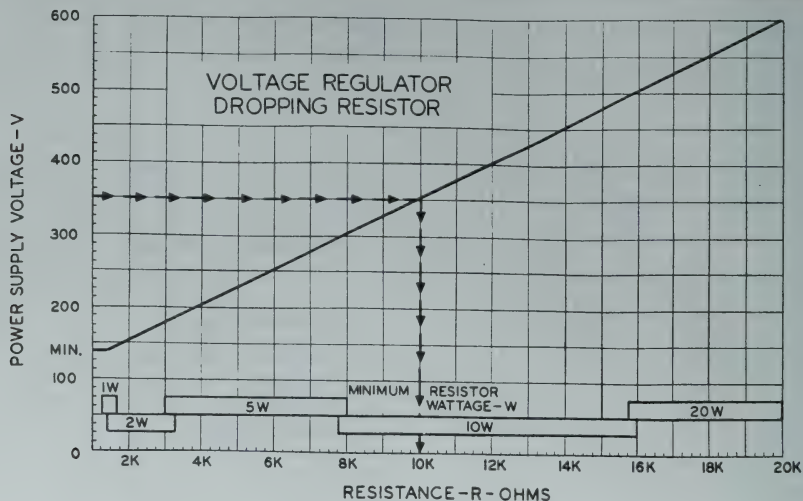

Figure 2
The value of the B+ voltage applied to the voltage regulator tube in the VFO is critical. For this reason, the value of the Dropping Resistor in series with the VR tube must be chosen to provide the correct voltage. The chart in Figure 2 should be used to determine the correct resistance and wattage of the Dropping Resistor. For example: If the B+ available from the transmitter is 350 volts, draw a line from the
350 volt point on the vertical scale across to the diagonal line of the graph. Then draw a line down from the point of intersection, to the horizontal scale. The point at which this line crosses the horizontal scale indicates the resistance value and wattage for the Dropping Resistor. This example is shown by the line of arrows on Figure 2. Do not use smaller resistance or wattage values. The correct Dropping Resistor should be installed in the VFO as shown in Figure 1. The 10 K Ω , 10 watt resistor, already in the VFO, should be removed. Figure 3 shows the VR tube and Dropping Resistor circuit schematically.
Voltage for the plates and screen grid of tube V1 is applied through series dropping resistor R11 to voltage regulator (VR) tube V2. The characteristics of this tube are such that the current through it will vary to maintain a constant voltage drop across the tube. The DC voltage at the plate of the VR tube, therefore, remains constant, regardless of fluctuations in the applied B+ voltage. Regulated DC voltage from V2 is applied as B+ to V1A and V1B. The use of regulated B+ voltage is essential to the stable operation of oscillator stage V1A. Resistor R11 must be changed in value to compensate for different values of applied B+ voltage. This change is covered under Installation, with Figure 2 to obtain correct values.